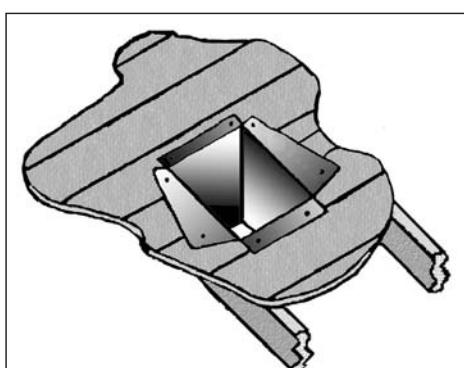

Figure 35: Cathedral Ceiling Support Box Installation.
- Using tin snips, cut the Support Box from the top corners down to the roof line, and fold the resulting flaps over the roof sheathing (Figure 35). Before nailing it in to the roof, run a bead of non-hardening mastic around the top edges of the Support Box to make a seal between the box and the roof. Clean out any combustible material from the inside of the Support Box.